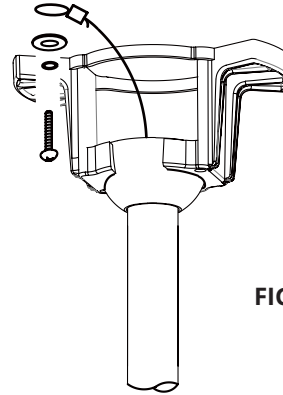

FIGURE 15
2. Secure the safety cable to the building structure using spring washer, flat washer, and wood screw provided (Fig. 15).